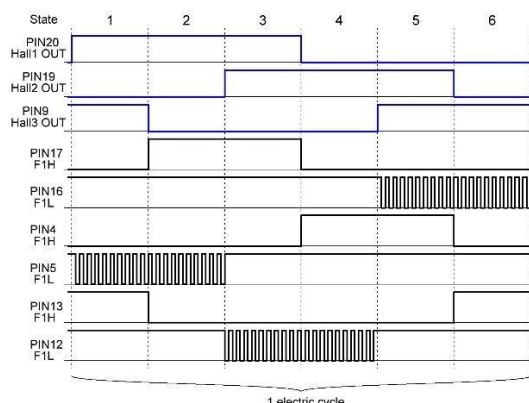

Figure 2: Hall Sensor Based Motor Commutation Sequence Timing Diagram
The BLDC motor stator is made from laminated steel stacked up to carry the windings. Windings in a stator can be arranged in two patterns - star pattern (Y) or delta pattern (Δ). The major difference between the two patterns is that the Y pattern gives high torque at low RPM and the Δ pattern gives low torque at low RPM. This is because in the Δ configuration, half of the voltage is applied across the winding that is not driven, thus increasing losses and, in turn, efficiency and torque. BLDC motors are controlled using electrical cycles. One electrical cycle has 6 states. The Hall sensor-based motor commutation sequence is showed in Figure 2.